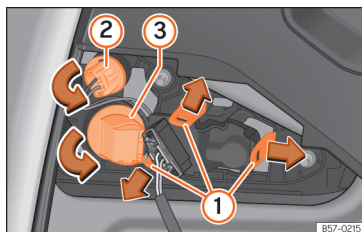

Fig. 203 Remove the bulb holder.
- Unlock the securing tabs from the bulb holder >>> **Fig. 203** ①, or turn the bulb holder to the left ② and ③.